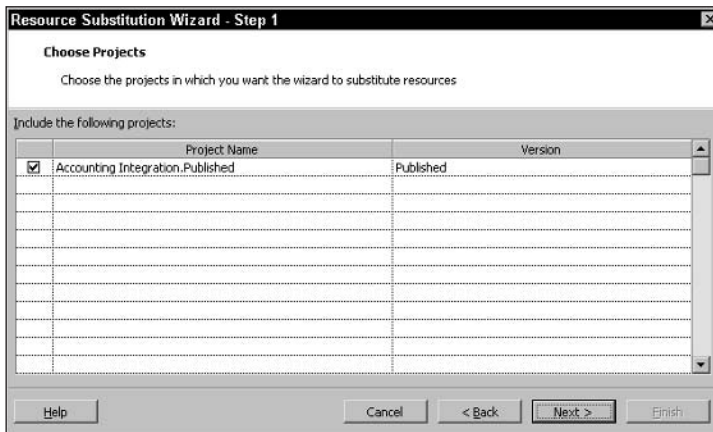

Figure 20-22: Each project that you have open is listed and selected.
3. Check the project(s) that you want the wizard to consider while substituting resources, as shown in Figure 20-22. Click Next.